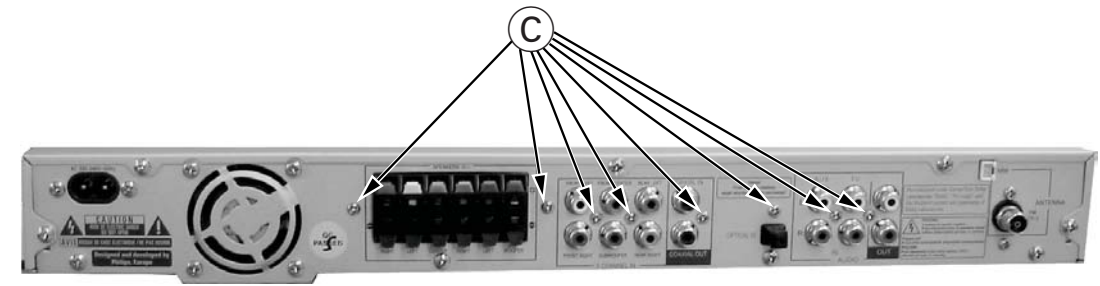

Figure 4
- 2) Loosen 8 screws "C" at the back panel as shown in figure4.